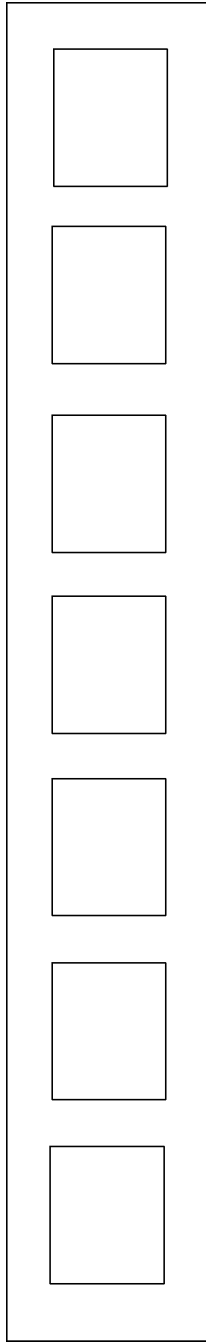

Figure 3: Template for Calibration Films
Step 3: Use paper and scalpel/razor blade to create a template similar to that in Figure 3. There should be one window for each calibration film. Windows should be of equal size about 2-2.5 cm wide and 3.5 -4 cm long. Borders around the windows should be 5-7 mm. The total length of the template should not exceed 36 cm.